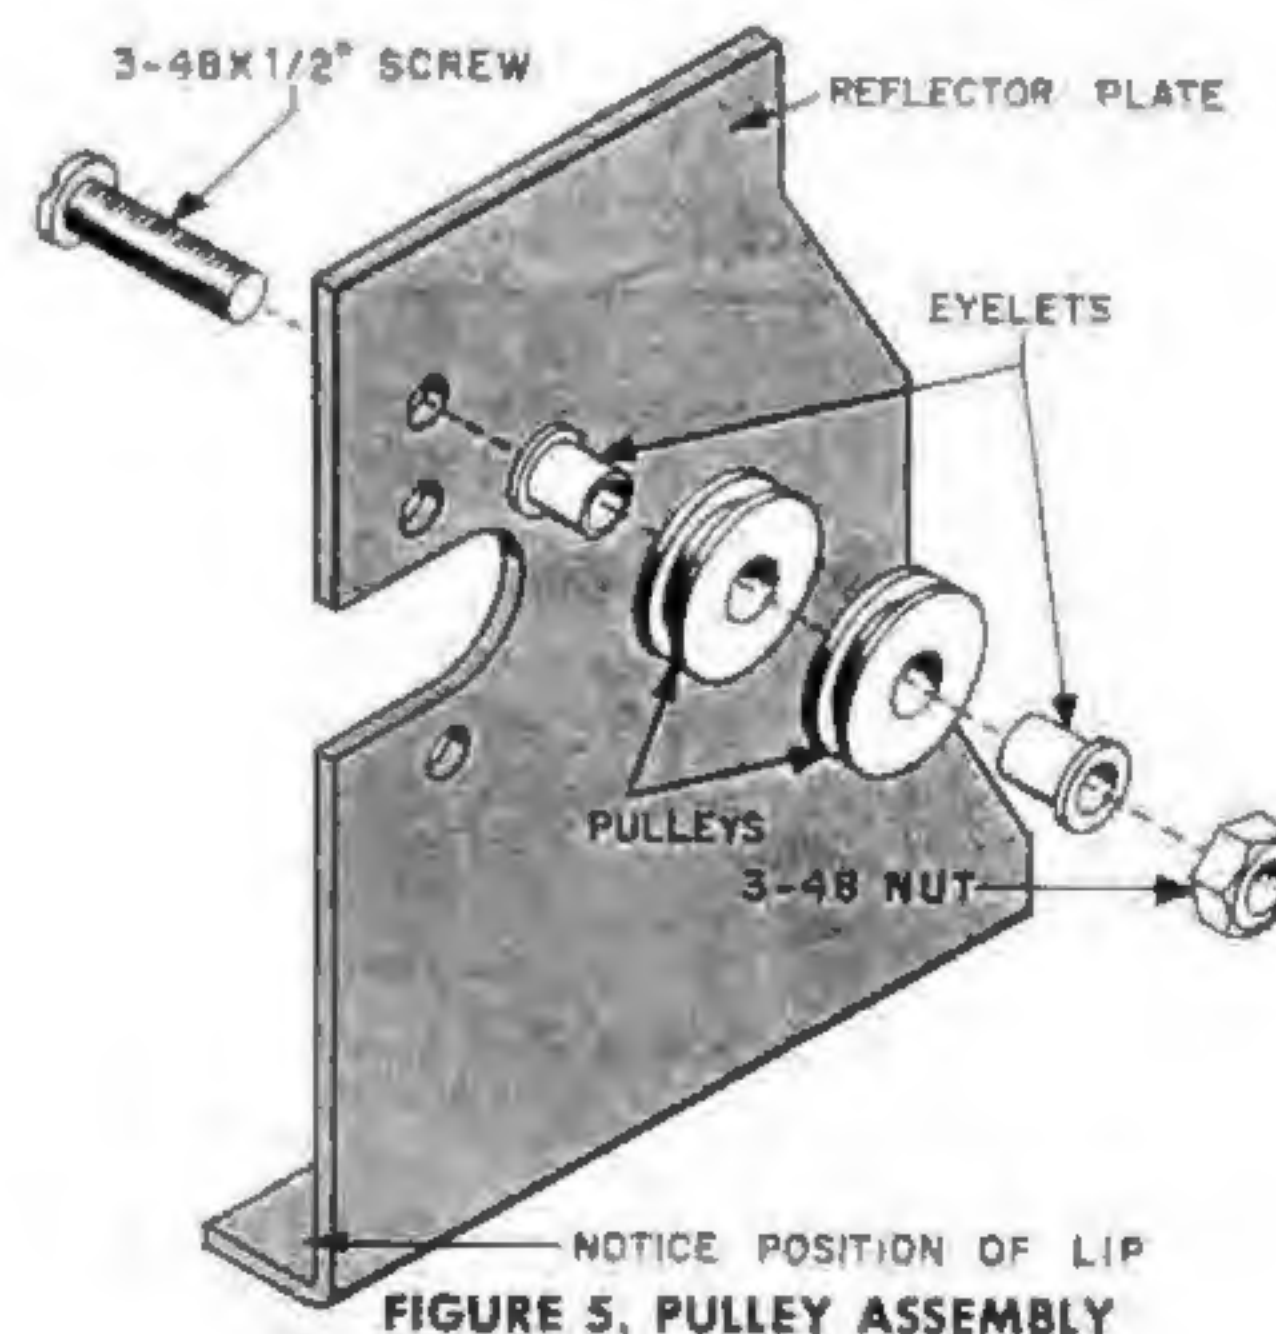

FIGURE 5. PULLEY ASSEMBLY
SEE FIGURE 17 ON A SEPARATE SHEET AND FIGURE 5.
- ☐ 2 small plastic pulleys and 2 eyelets. Mount on the reflector plate as shown in Figure 5, with a 3-48 screw and nut. (The 3-48 screws are the thinnest in the kit). Make sure the eyelets are correctly positioned.